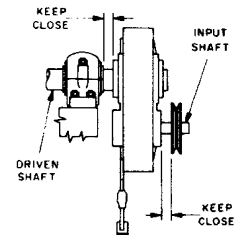

Fig. 2
4. Install sheave on input shaft as close to reducer as practical. (See Fig. 2)